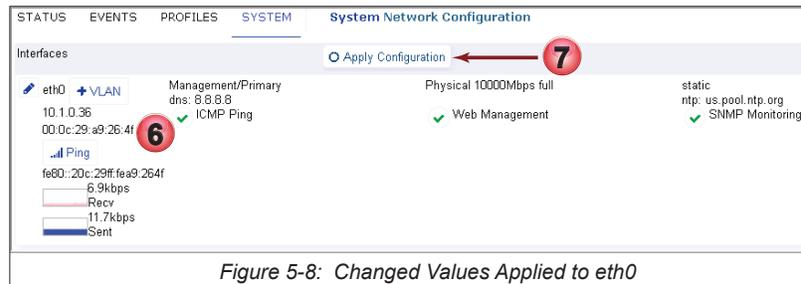

Figure 5-8: Changed Values Applied to eth0
6. When saved, eth0 values are changed but not yet activated on the Server, Figure 5-8.